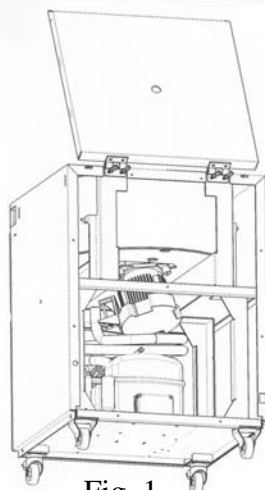

Fig. 1
- Remove the front panel (1) by unscrewing the screws and disconnect the power switch, the flat cable, the display supply and the front panel ground cable. Lift the bowl seal and unscrew the three press screws of the chamber.
- Unscrew the 3 screws, then turn the motor body (Fig 1).
- Remove it (Fig. 1).